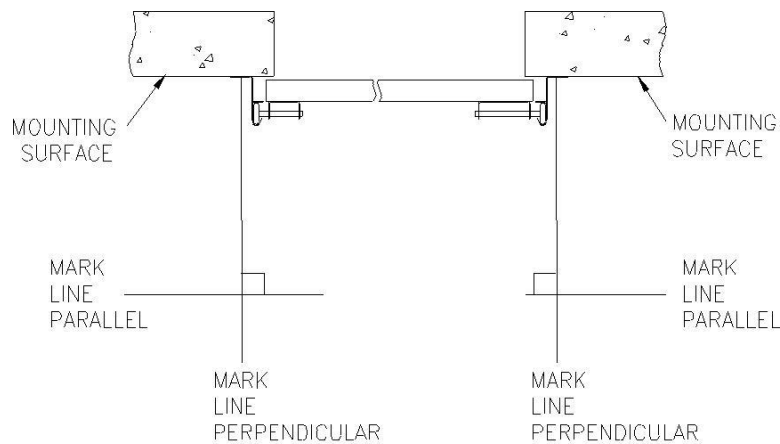

FIG. 1D
- b. **Measure and mark a line** on the floor. Parallel to the mounting surfaces on the left side and the right side mark a line on the floor. (Fig. 1d)
- **Mark a perpendicular line on the floor.** Do this on the left side and the right side.(Fig. 1d)